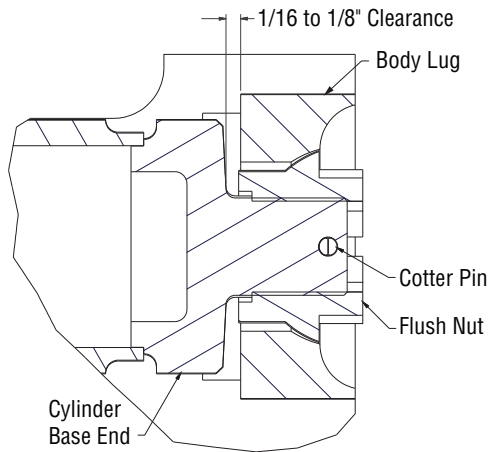

Figure 5-11, Body Lug
1. Apply a thin coat of bearing grease to the spherical portion of the flush nut and concave section of the body lug. Screw on the flush nuts until they stop. Back the flush nut off lining up the cotter pin hole in the rod or base end stud with the slot in the flush nut. Do not tighten the flush nut tight to eliminate all clearance between washer and body lug. Adjust to allow 1/16 to 1/8 of an inch clearance between the base end of the cylinder and the body lug. (Figure 5-11)